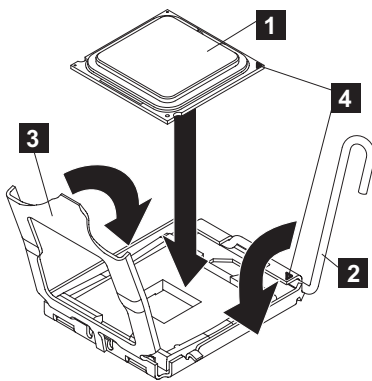

Figure 262. Closing the SAN Volume Controller 2145-CG8 or 2145-CF8 microprocessor-bracket frame
- Align the triangular alignment mark ( 4 in Figure 262 on page 262) on the microprocessor on the microprocessor installation tool with the triangle alignment mark on the microprocessor, then place the microprocessor on the underside of the tool so that the tool can grasp the microprocessor correctly onto the bottom of the installation tool.
To align the microprocessor with the socket, use the triangular alignment cutout on the microprocessor socket and the triangular alignment mark ( 4 in Figure 262 on page 262) on the microprocessor. Also use the position of the notches to align the microprocessor.